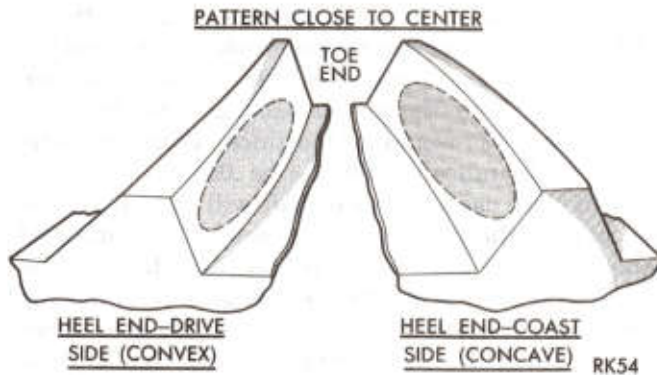

Fig. 33—Desired Tooth Contact Under Light Load
(2) Observe the contact pattern on the drive gear teeth and compare with those in Figs. 33 through 37 to determine if pattern is properly located. With pinion depth of mesh and gear backlash set properly, your contact pattern should resemble that in Fig. 33. Notice that the correct contact pattern is well centered on both drive and coast sides of the teeth. When tooth contact patterns are obtained by hand, they are apt to be rather small. Under the actual operating load, however, the contact area increases.